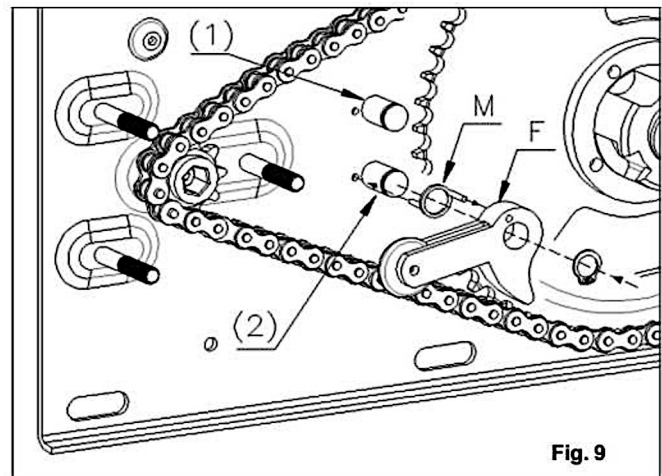

Fig. 9
For the configuration to the left of the transmission bracket, proceed as follows: Remove the parachute system from the pin (1) and turning it 180 °, mount it on the pin (2) as shown in Figure 9; Insert the spring (M) between the two holes for med respectively on the bracket and on the parachute system. At this point, collapse the group and secure it with the snap ring.